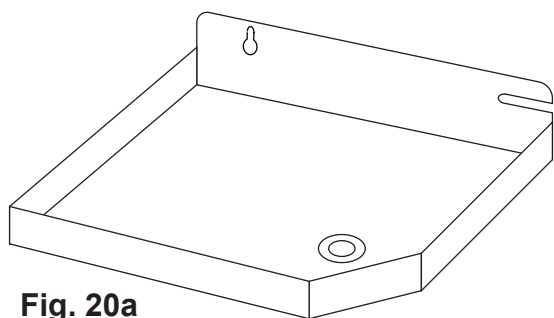
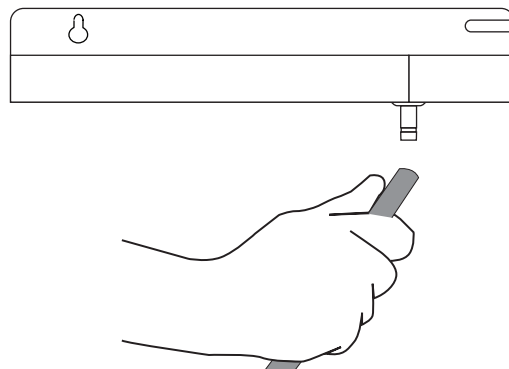

Fig. 20a
Fig. 20b
20.1 Take the 5/16 dia. plastic tube previously uncoiled and push one end on the connector located at the bottom of the overflow pan. Please see Fig. 20a and Fig.20b.